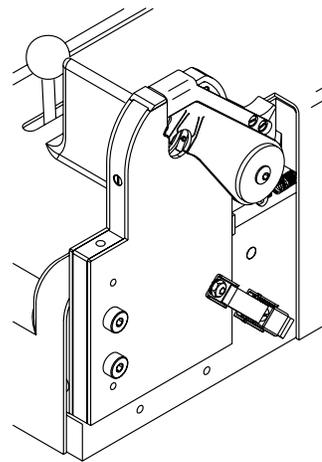

Figure 29 Arc Shield Closed
6. Verify the arc shield is in the closed position. See Figure 29.